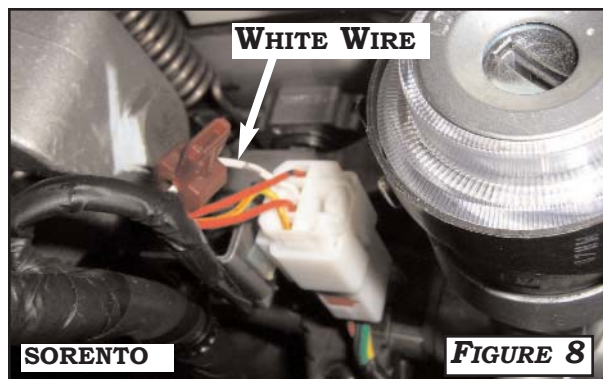

FIGURE 8
6. CONNECT **RED ACCESSORY WIRE** AND **WHITE WIRE** MARKED **CRUISE 1** FROM THE MAIN CRUISE HARNESS TO **WHITE WIRE (SORENTO)** OR **GREEN WIRE (RONDO)** IN THE IGNITION SWITCH CONNECTOR. **FIGURE 8** OR **8A**.